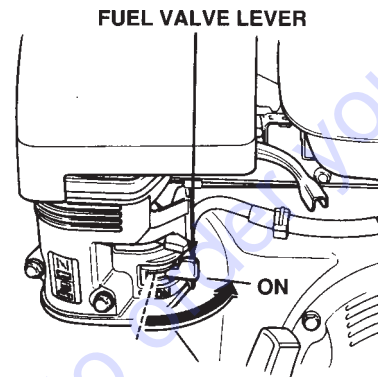

Figure 5. Fuel Shut-OFF Lever
1. Move the fuel shut-off lever (Figure 5) to the **ON** position.